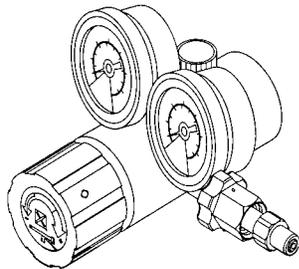

Figure 1-17. Pressure Regulator
c. **Pressure Regulator** - Part Number 22-895400 (Figure 1-17). The pressure regulator is a self-contained, direct-acting, pressure-reducing type designed primarily for use with a SCBA (self-contained breathing apparatus) air cylinder. Inlet pressures up to 6,000 psi (413.7 bar) are adjustable to constant working pressures up to 250 psi (17.2 bar). The pressure regulator is designed to mate with a CGA-346/347 adapter fitting.